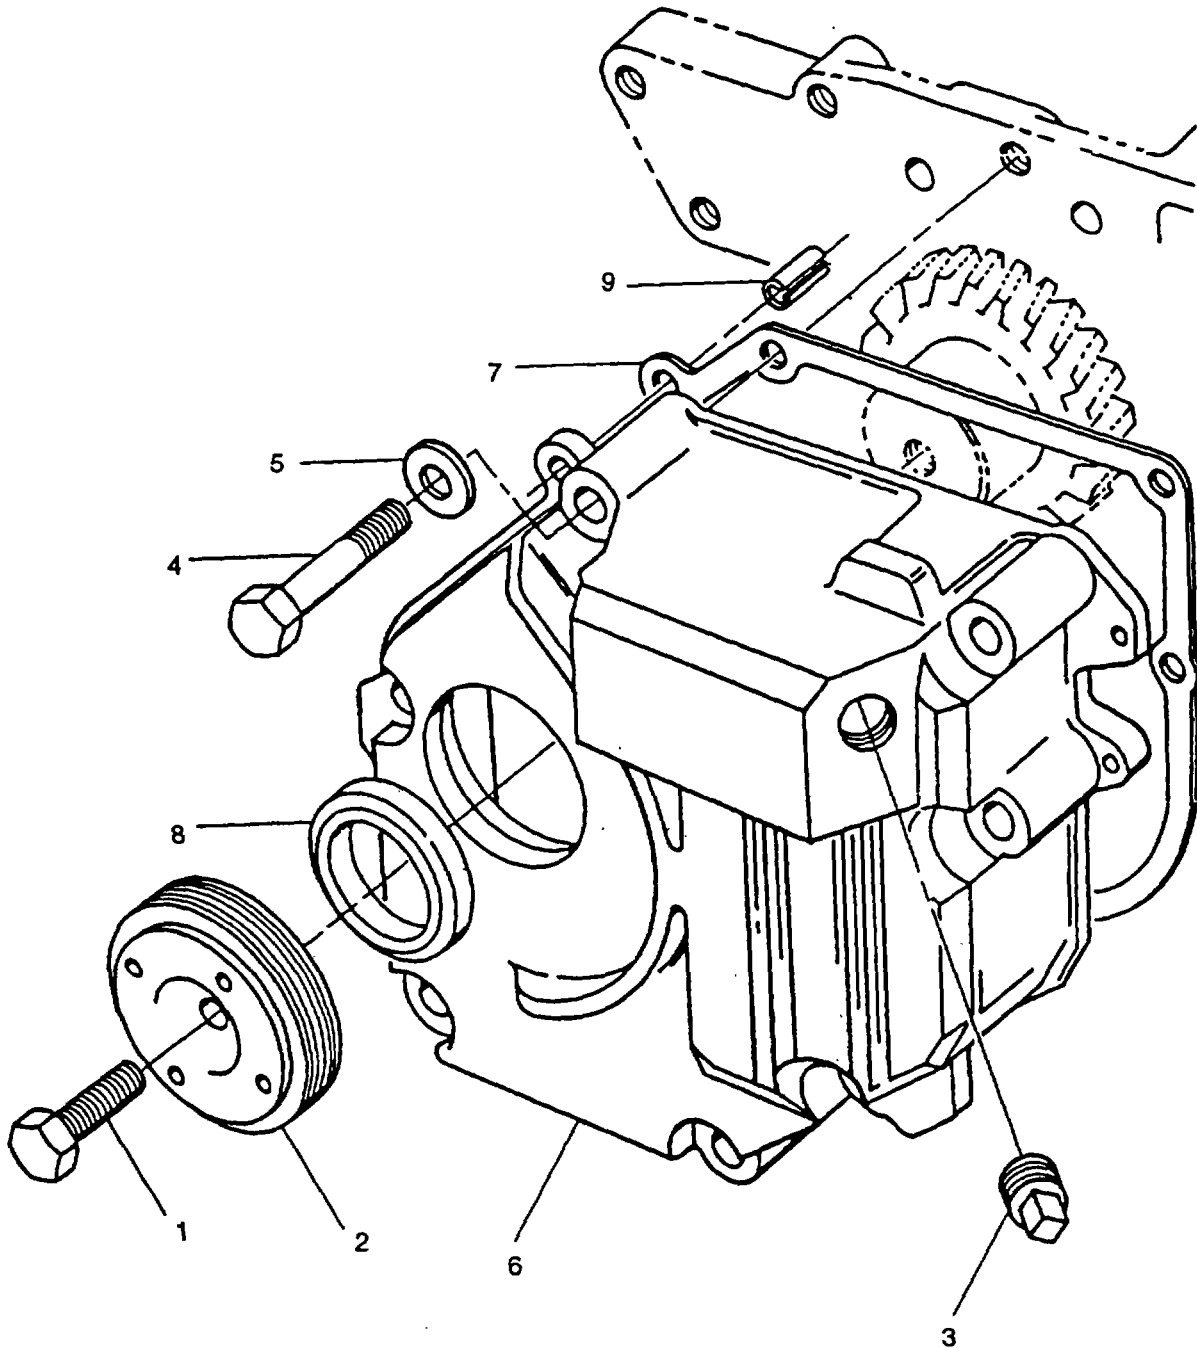

FIGURE 3-32. Gear End Cover
Bolt (1, FIGURE 3-32) has left hand threads.
- a. Inspect crankshaft front oil seal (8, FIGURE 3-32) for excessive wear, damage, or signs of leakage.
- b. Inspect crankshaft pulley (2) for cracks and wear.
- c. Inspect end cover (6) for cracks or other physical damage.
- a. If removed, install two dowels (9, FIGURE 3-32), flat end first into crankcase fully.
- b. Install new seal (8) as follows:
- (1) Lightly grease sealing lip of new seal (8) with general purpose grease (630AA).
- (2) Position new seal (8) into outside neck of end cover (6), lip side first, and position it squarely on shoulder of seal boss.
- (3) Using suitable driver, drive seal into position in end cover (6).
- d. Install new gasket (7) dry, over two dowels (9), and onto crankcase.
- e. Install oil seal tool into outside face of oil seal (8).
- f. Install end cover (6), taking care to ensure new gasket (7) is not damaged and cover is correctly installed over dowels (9).